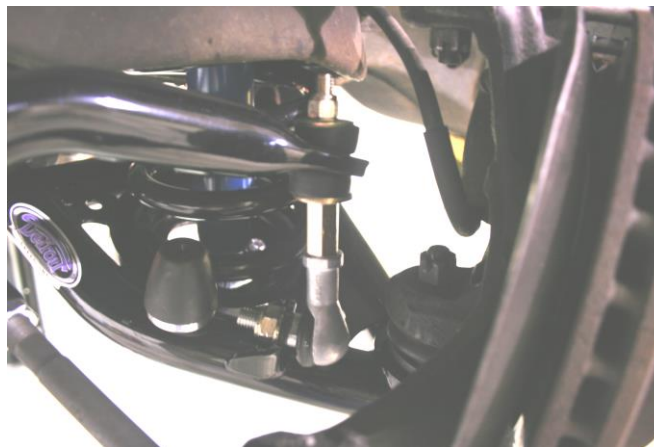

Figure 2 - End Link Installed
6. Disassemble the sway bar end links and re-assemble the assembly between the sway bar and the lower control arm. **NOTE:** It may be necessary to reposition the sway bar in the mounts to better line up the end links. Do not overtighten the upper mount of the end links. The upper end link nut is tight when the polyurethane bushings start to compress. Torque the lower mount nut to 40 ft-lbs. Figure 2 shows the driver side installed.